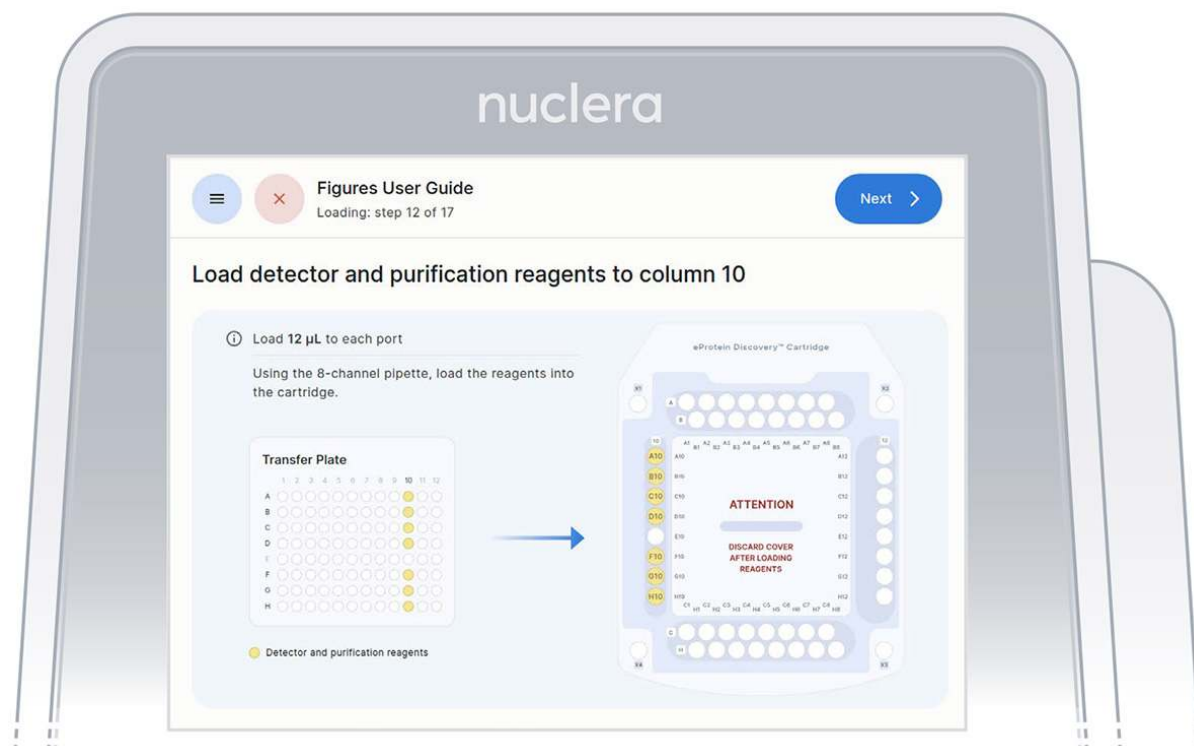

Figure 23: Loading of the reagents onto column 10 of the cartridge
- ▷ Load 7x fresh p20 pipette tips and aspirate 12 µL of the reagents from the transfer plate wells A10-D10 and F10-H10 into ports A10-D10 and F10-H10 of the cartridge (Figure 23).